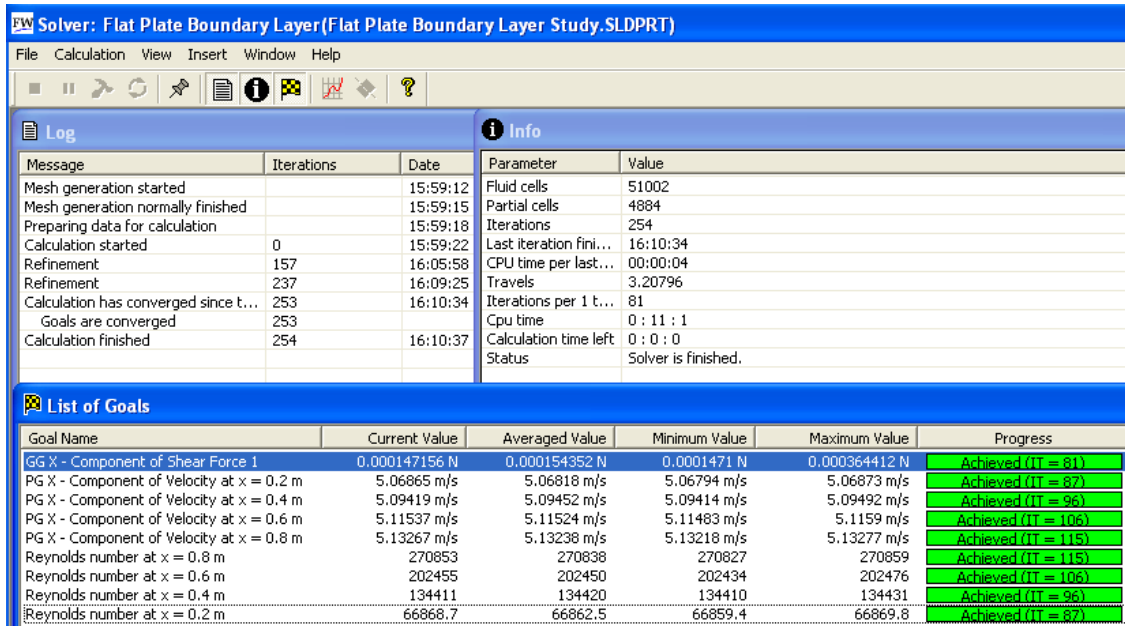
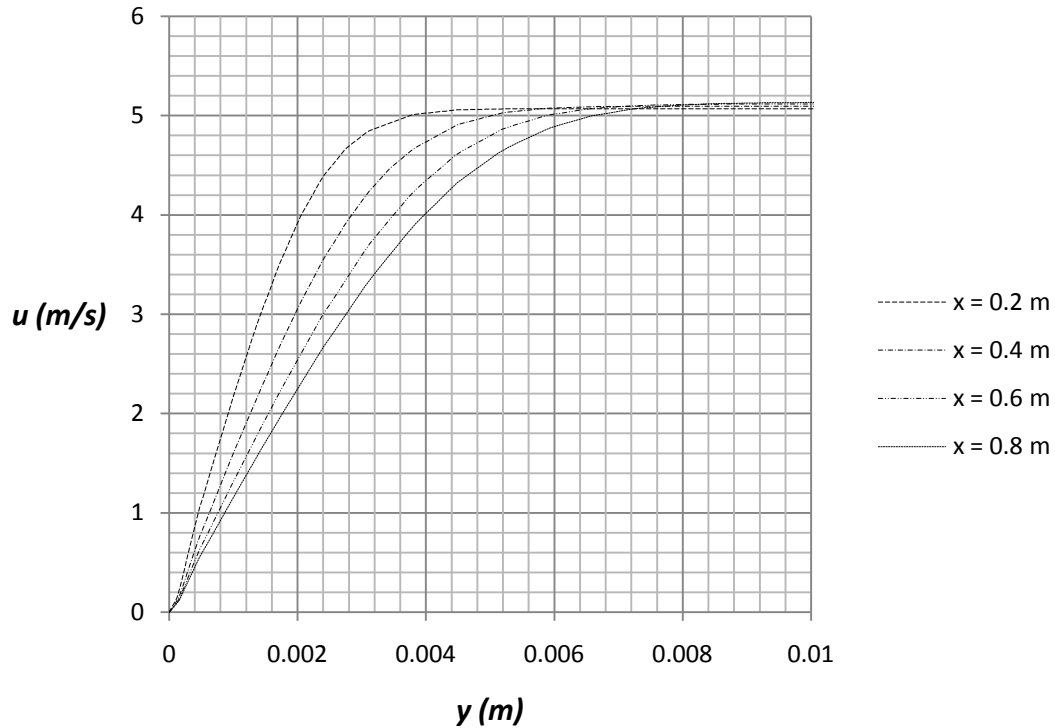

Figure 2.22c) Solver window
Figure 2.24c) Boundary layer velocity profiles on a flat plate at different streamwise positions
24. Place the file “xy-plot figure 2.24c)” into the **Local Disk (C:/SolidWorks/COSMOSFloWorks/FloWorks/lang/english/template/XY-Plots** folder to make it available in the **Template** list. Click on the **FeatureManager design tree**. Click on the sketch **x = 0.2, 0.4, 0.6, 0.8 m**. Click on the **COSMOSFloWorks analysis tree** tab. Right click **XY Plot** and select **Insert...**. Check the **X-velocity** box. Open the **Resolution** portion of the **XY Plot** window and slide the **Geometry Resolution** as far as it goes to the right. Click on the **Evenly Distribute Output Points** button and increase the number of points to **500**. Open the **Options** portion and check the **Display boundary layer** box. Select the template “xy-plot figure 2.24c)” from the drop down menu. Click OK to exit the **XY Plot** window. An Excel file will open with a graph of the velocity in the boundary layer at different streamwise positions, see figure 2.24c). Rename the inserted xy-plot in the COSMOSFloWorks analysis tree to **Laminar Velocity Boundary Layer**.
From the data of figure 2.24c) we can see that the thickness of the laminar boundary layer is close to 3.88 mm at $Re_x = 66,900$ corresponding to $x = 0.2$ m. The free stream velocity at $x = 0.2$ m is
$U = 5.069$ m/s, see figure 2.22c) for list of goals in solver window, and 99% of this value is $U_\delta = 5.018$ m/s. The boundary layer thickness from FloWorks was found by finding the y position corresponding to the U_δ velocity. This value of the boundary layer thickness can be compared with a value of 3.80 mm from equation (3). In table 2.1 are comparisons shown between boundary layer thickness from FlowWorks and theory corresponding to the four different Reynolds numbers shown in figure 2.24c). The Reynolds number varies between $Re_x = 66,900$ at $x = 0.2$ m and $Re_x = 270,900$ at $x = 0.8$ m.
The average friction coefficient over the whole plate C_f is not a function of the surface roughness for the laminar boundary layer but a function of the Reynolds number based on the length of the plate Re_L , see figure E3 in Exercise 8 at the end of this chapter. This friction coefficient can be determined in FloWorks by using the final value of the global goal, the X-component of the Shear Force F_f , see figure 2.22c) and dividing it by the dynamic pressure times the area A in the X-Z plane of the computational domain related to the flat plate.